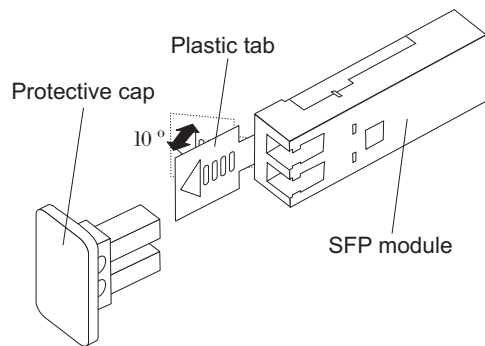

Figure 32. Unlocking the SFP module latch - plastic variety
- For SFP modules that contain plastic tabs, unlock the SFP module latch by pulling the plastic tab outward 10°, as shown in Figure 32.